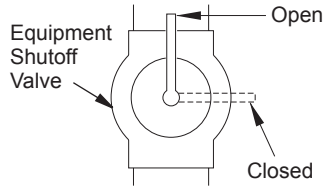

Figure 15 - Equipment Shutoff Valve
We recommend that you install a sediment trap in supply line as shown in Figure 15, depending on your model. Locate sediment trap where it is within reach for cleaning. Install in piping system between fuel supply and heater. Locate sediment trap where trapped matter is not likely to freeze. A sediment trap traps moisture and contaminants. This keeps them from going into heater controls. If sediment trap is not installed or is installed wrong, heater may not run properly.
1. Close equipment shutoff valve (see Figure 15).
1. Open equipment shutoff valve (see Figure 15).
2. Close equipment shutoff valve (see Figure 15, page 16).